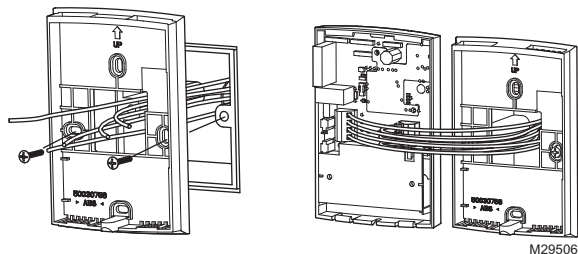

Fig. 3. Wiring thermostat.
2. Insert the mounting screws and tighten. See Fig. 3, left.
3. Loosen screw terminals used for the application. Insert the wires into the terminal block and tighten each screw terminal. See Fig. 3, right.